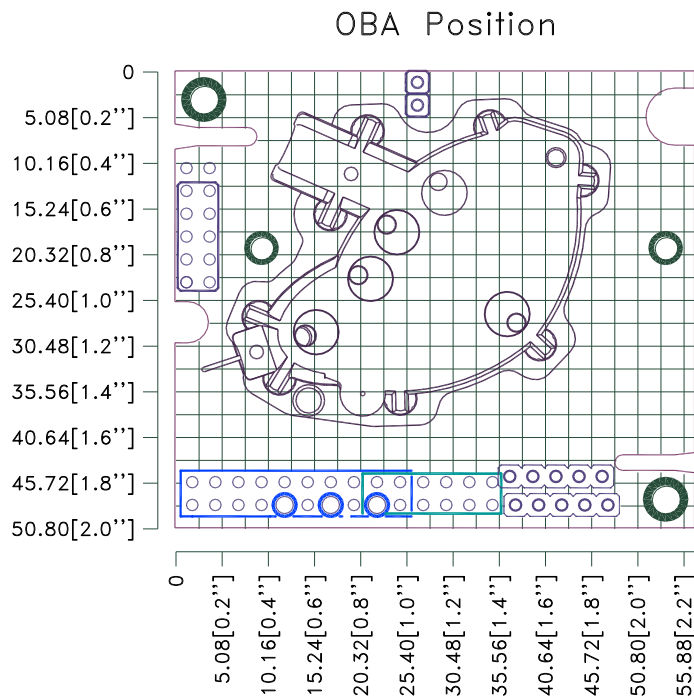

Figure 2.. CO2 Engine® K30 STA OBA position.
The table below specifies what terminals and I/O options are available in the general **K30** platform (see also the layout picture Fig. 2). Please note, however, that in the **CO2 Engine® K30 STA** default configuration, only OUT1, OUT2, Din1, Din2 and Status have any pre-programmed functions. These are described in the chapter “Default Configuration”.
The modules are factory calibrated and ready for use directly after power up. There are several alternative ways to connect the *CO2 Engine® K30 STA* to a host system (see also figure 2):
- The two screw points in the upper left corner (having the IDC and edge connectors faced downwards, as in Figure 2) are connected to the *analogue* ground. They are the preferred choice for connection to some EMI shield, if so is required. This is normally necessary only if the application is such that large EMFs are foreseen. If this option is being used, precaution must be taken so as to exclude any power supply currents! Sensor reading instability is an indication of the need for shielding, or of improper enclosure system groundings.